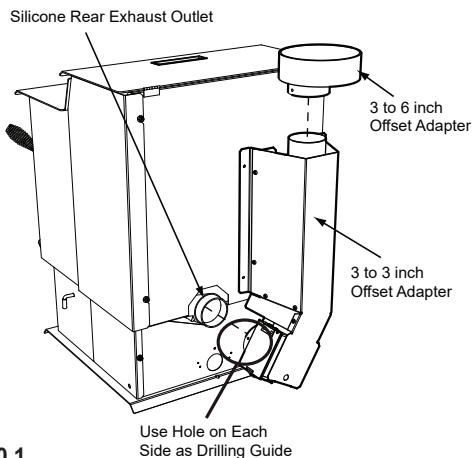

Figure 20.1
1. Put a layer of high temperature silicone on the 3 inch (76mm) exhaust outlet. Do not put silicone inside of pipe (**Figure 20.1**).
2. Slide the top vent adapter onto the rear exhaust outlet and adjust the assembly to a vertical position (**Figure 20.1**).
3. Drill 4 holes with #26 drill bit (provided) into the back of the appliance using the outer shield as a pattern (make sure the assembly is vertical) (**Figure 20.1**).
5. Drill 2 holes with #26 drill bit through the rear exhaust outlet using the 2 holes already in the short horizontal pipe in the top vent adapter as a guide. Install the 2 screws (**Figure 20.1**).
7. To clean the top vent adapter open the clean-out cover (**Figure 20.1**).